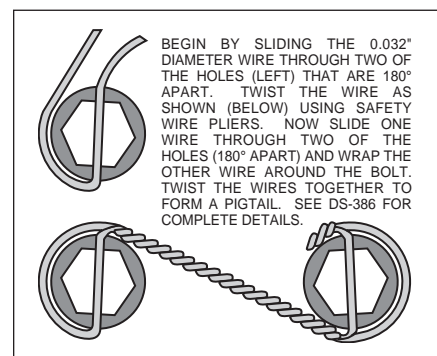

Figure 2. Safety Wire Diagram
- Safety wire bolts (4) using standard 0.032 inch diameter stainless steel safety wire as shown in Figure 2. Please refer to Wilwood's data sheet DS-386 (available at www.wilwood.com/Pdf/DataSheets/ds386.pdf) for complete safety wire installation instructions.